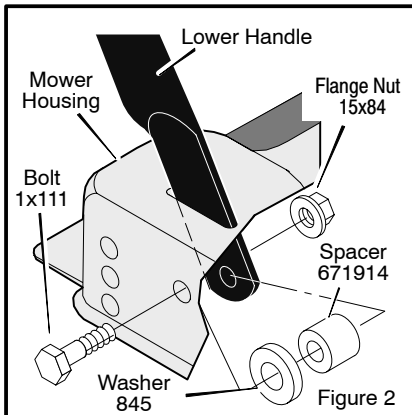

Figure 2
1. Put the ends of the **lower handle** into the handle slots (Figure 2).
2. Attach each side of the **handle** to the **mower housing** with a **bolt**, **washer**, **spacer**, and **nut** (Figure 2). Tighten the **bolts**.